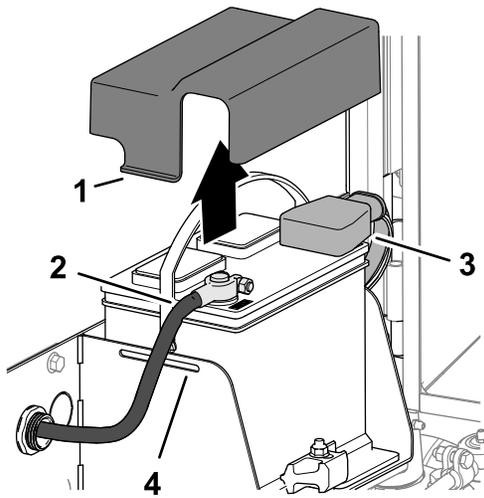

Figure 100
3. Press the sides of the battery cover, and remove the cover from the battery tray (Figure 100).